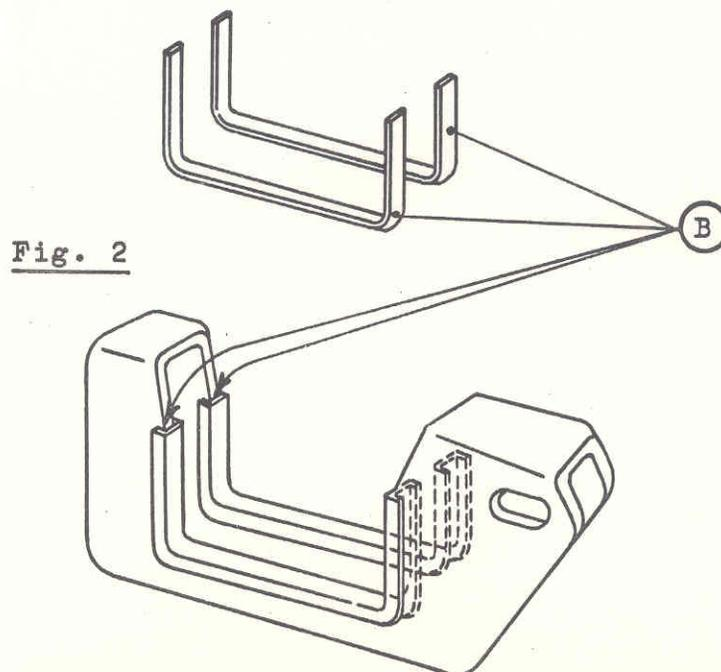

Fig. 2
If this is not enough to remedy the trouble, shims "B" can be inserted under the pad guide so as to take up the excessive play (See fig. 2).
- 2) - Drill three 5 mm dia. holes in the hinge, P.N. 1488.46.005, as shown in fig. 4; with the hinge so drilled, countermark the bracket attached to the hood and drill three 5 mm dia. mating holes through. (see fig. 2)